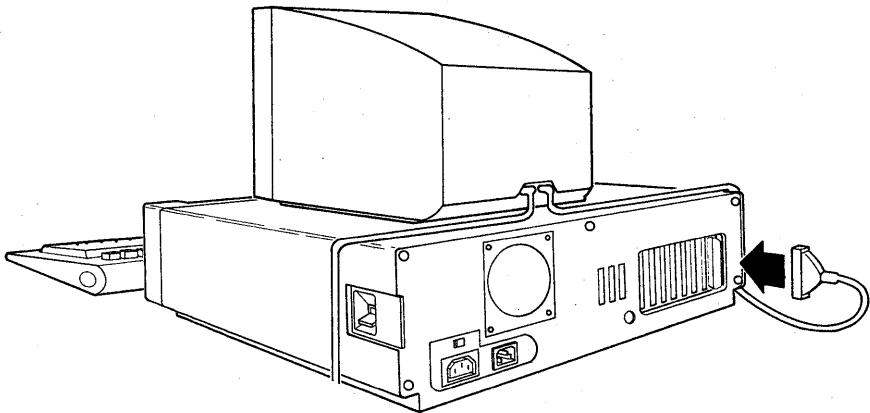

Figure 15: Connecting the Shielded Round Cable to the Tape Controller Card
6. Connect the tape drive's shielded round cable to the endplate of the controller card as shown in Figure 15.